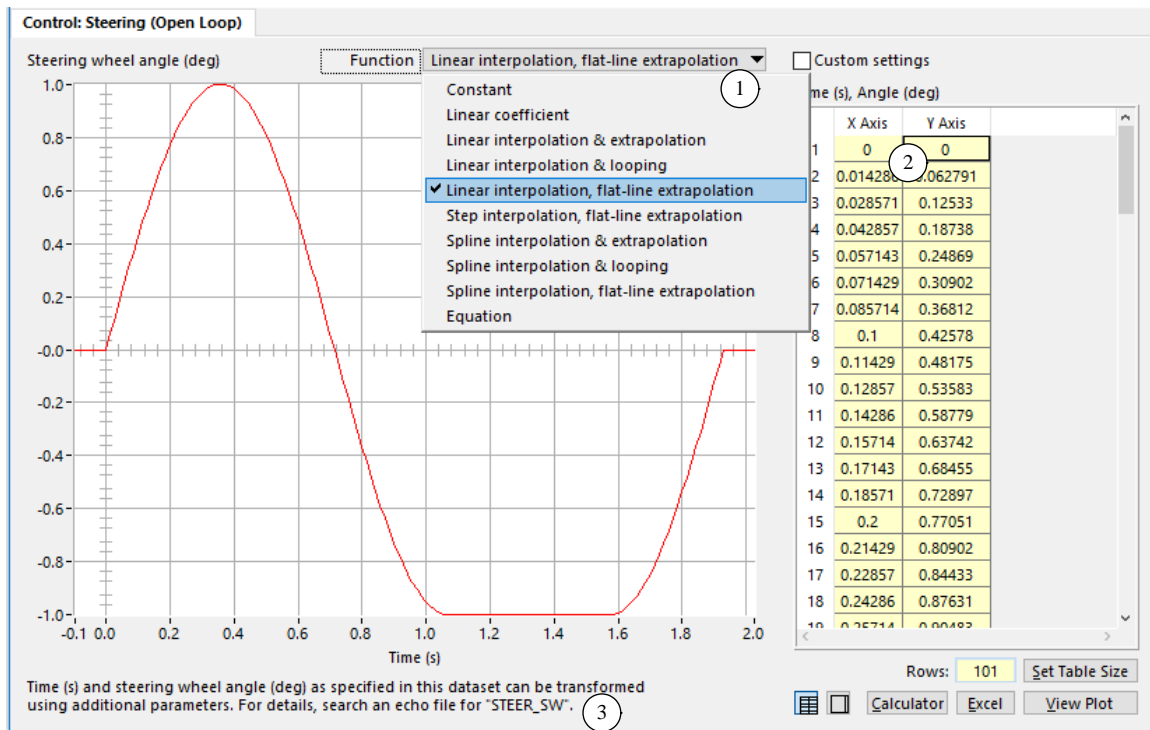

Figure 1. Open-loop steering control screen.
Each open-loop control is represented in a VS Math Model with a Configurable Function that can be set to use one of many calculation methods. For example, Figure 1 shows the library screen for open-loop steering wheel angle control. In this case, the function type is set to **Linear interpolation, flat-line extrapolation** ①, and is based on a table of values of steering wheel angle vs. time ②. The nonlinear relationship from the table of numbers is shown graphically on the screen.
1. *VehicleSim Browser Reference Manual* describes the user interface for configuring the functions with screens such as the one shown in Figure 1,
Figure 2 shows part of an Echo file written at the end of a simulation run in which the `STEER_SW` waveform from Figure 1 was used and rescaled during the run. The comment lines at the top of the listing describe the options that are supported for this specific configurable function (constant, linear coefficient, nonlinear function of time, custom equation, etc.). The options are not the same for all configurable functions; the Echo file provides the reference to indicate which options can be used for each specific function.
After the documentation, the Echo file lists the data associated with the function. The type of function selected on the screen (1) (Figure 1) is defined in the parsfile with keywords `STEER_SW_TABLE` and `LINEAR_FLAT`, followed by a table of numbers that match the numbers shown on the screen (2).
All library screens for open-loop controls are similar in layout to the one shown in Figure 1 (page 3). Table 1 summarizes the functions, as defined by the keywords used to specify the controls. The root keyword in the table is used for the table function ( $f$  in the above equations), the import variable identifies *import*. Each function also has four parameters for transforming the calculated value (e.g., STEER\_SW) or time, as described earlier. The table also lists the output variable used to plot the function values.